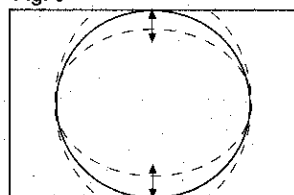

Fig. 10
- Adjust the vertical size to obtain overscan (fig. 10).